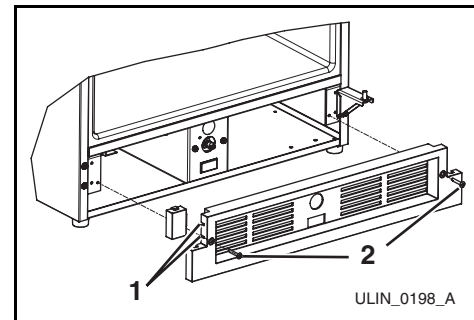

Figure 13
6. Make sure grille cap is behind grille in slots provided in grille (**Figure 13, 1**) before attaching grille to unit, and secure but do not overtighten both grille screws (**Figure 13, 2**).